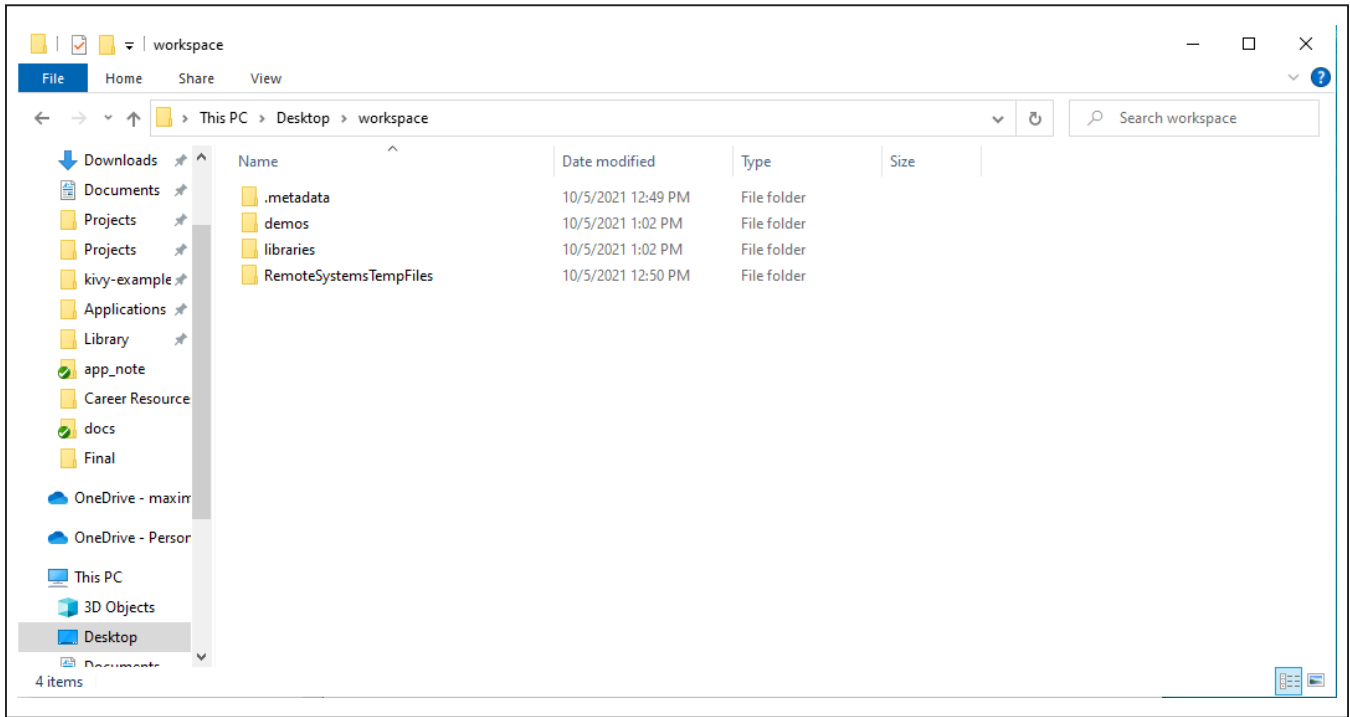

Figure 7. Software workspace.
7) Open the **MAXREFDES9008_Software_V1.0.0** folder and copy the **demoes** and **libraries** folder into the workspace location as shown in Figure 7.